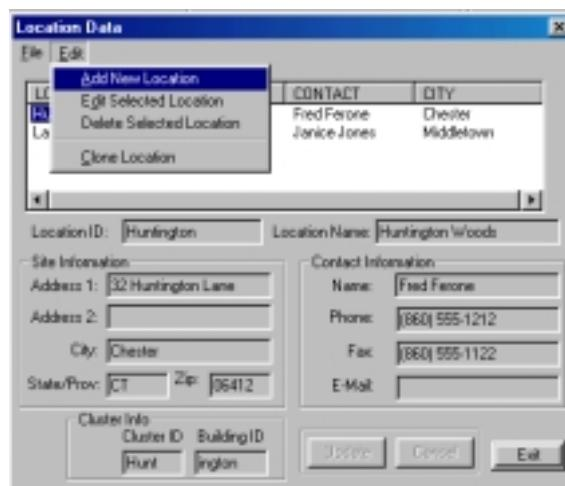

Figure 3.2 Add Location
- The Location Data dialog box will open. Select **Add New Location** from the Edit drop-down menu (Figure 3.2).